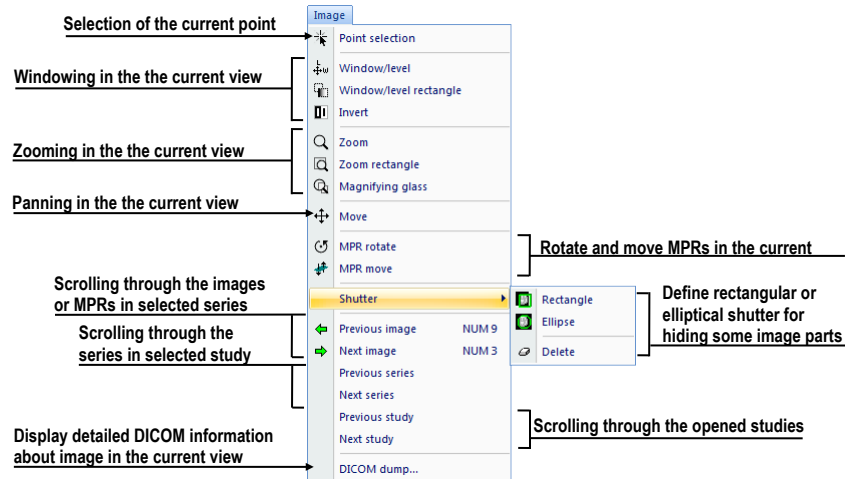

Figure 35 – Image menu
- **Image** - viewing and manipulation of images. It contains a complex group of functions for windowing and zooming images in a view, creating shutters and reading raw DICOM data of images (see Figure 35).